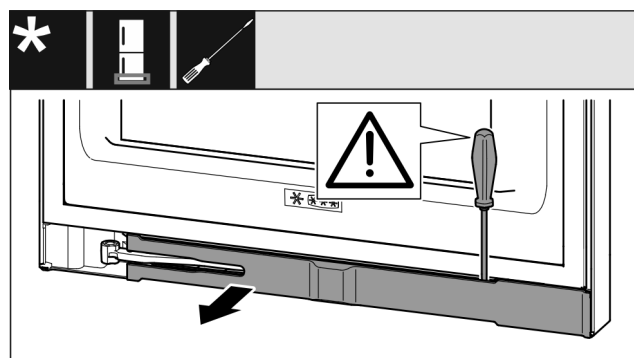

Fig. 17
- Use a slotted screwdriver to unlatch the trim and swing it to the side. (see Fig. 17)